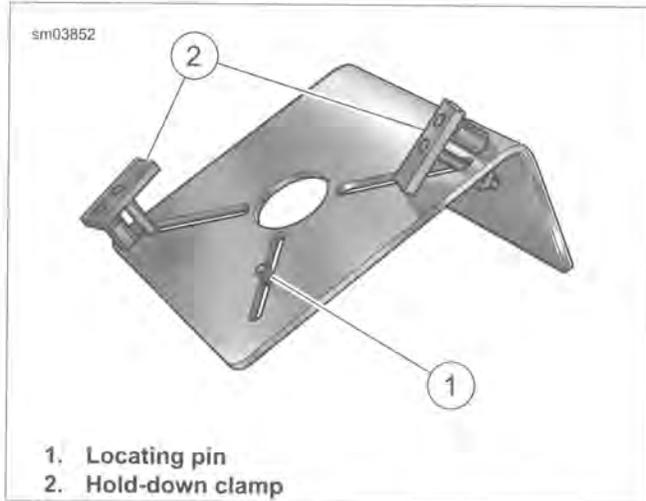

Figure 3-128. Flywheel Holding Fixture
1. See Figure 3-128. Install brass jaws or shop towels around teeth of vise to prevent damage to tool. Obtain FLYWHEEL SUPPORT FIXTURE (Part No. HD-44358). Clamp tool in vise with the round hole topside.